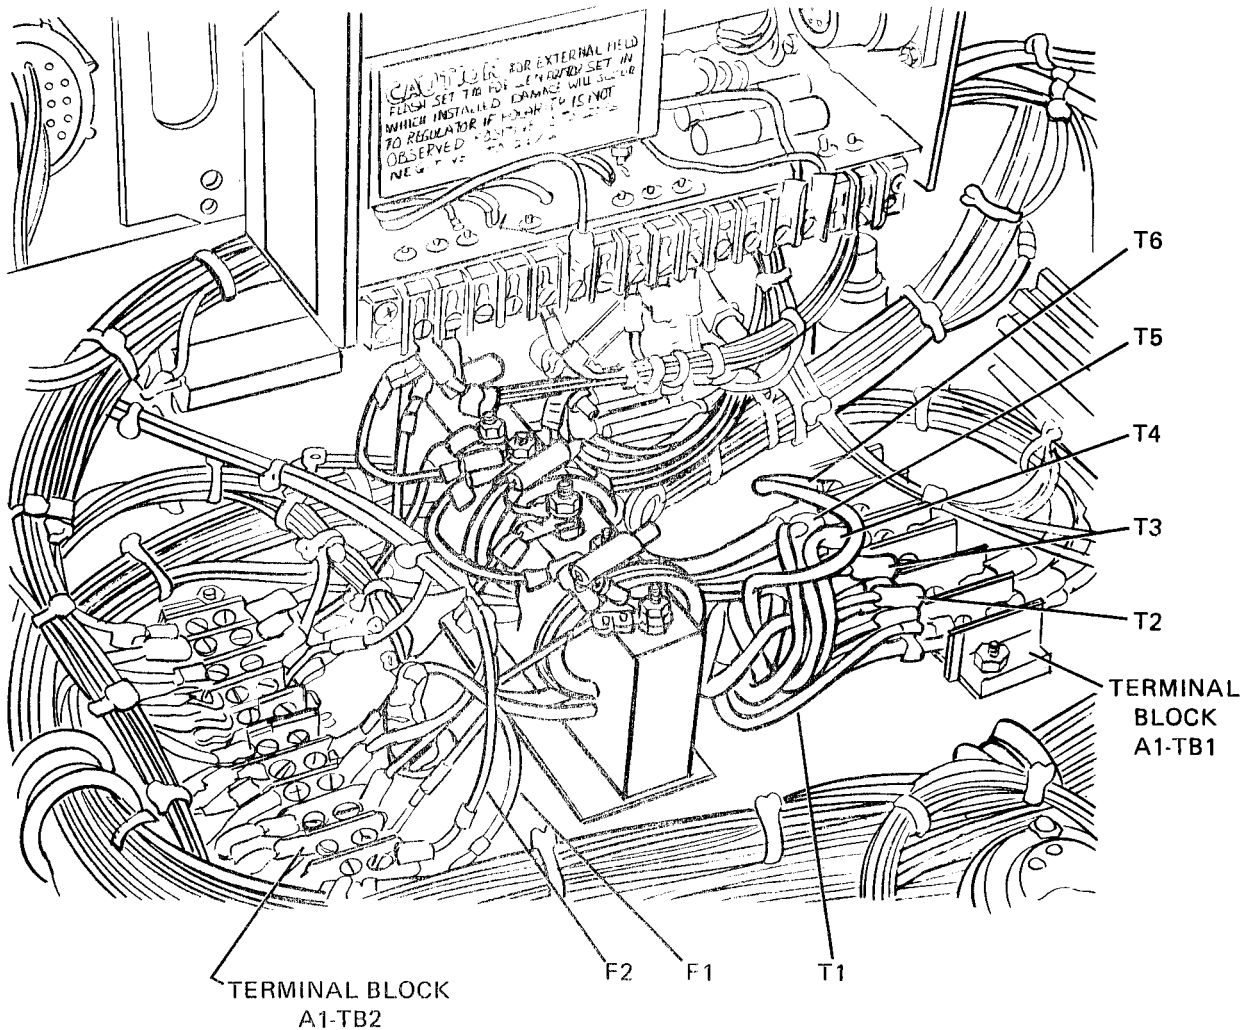

Figure 5-1. Generator Testing-MEP-016B and MEP-021B.
- (1) Start generator set and allow it to warm up.
- (2) Observe the voltmeter on the front of control box. If exciter, rotor, regulator, or stator is defective; there will be no or a low voltage reading on the set voltmeter.
- (3) Perform the following preliminary generator tests to determine which component of the power generator is faulty. If these tests do not indicate a faulty component, disassembly and testing of individual components is required.
- (4) Test exciter stator windings.
- 1 Models MEP-016B and MEP-021B (60 and 400Hz) disconnect exciter stator leads F1 and F2 at terminals #1 and #2 of terminal block A1-TB2 (see Figure 5-1).
- 1 MEP-016B and MEP-021B (60 and 400 Hz) sets disconnect the six stator leads (T1, T2, T3, T4, T5, and T6) from the control box. Lead T1 is connected to terminal #1 of terminal block A1-TB1 (see Figure 5-1). Lead T2 is connected to terminal #2 of A1-TB1, lead T3 is connected to terminal #3 of A1-TB1, lead T4 is connected to terminal #4 of A1-TB1, lead T5 is connected to terminal #5 of A1-TB1, and lead T6 is connected to terminal #6 of A1-TB1.